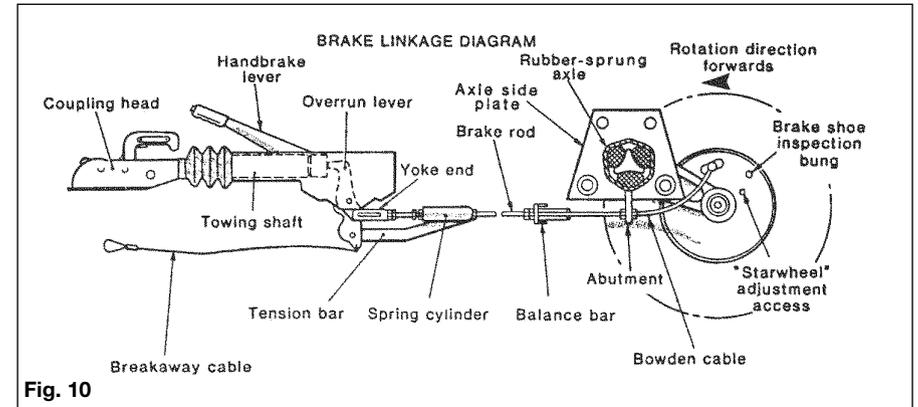
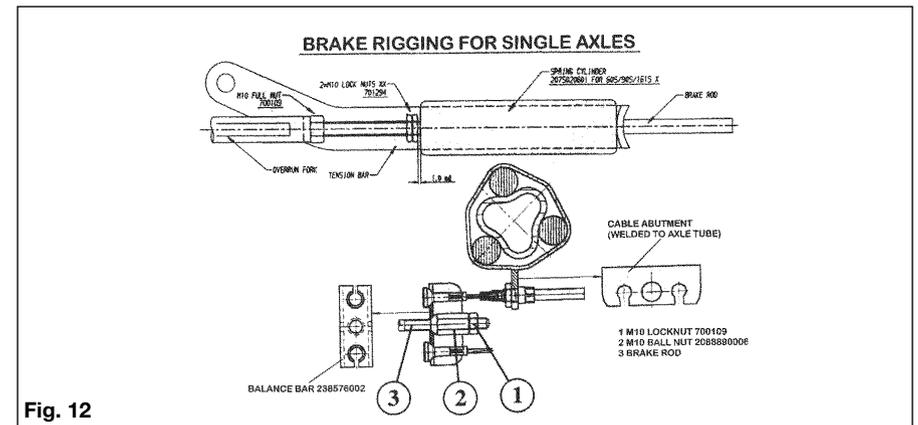

Fig. 10
Fig. 12
1. Ensure the towing shaft with coupling head is pulled FULLY FORWARD. (Fig. 10).
2. Release the handbrake to the FULLY OFF position. If the handbrake will not go down the whole way because of the fairing or any other obstruction; then the fairing must be cut away and/or the obstruction removed to achieve this desired position. It will not be possible to set up the braking system properly when the handbrake is not in the FULLY OFF position. (Fig. 10).
4. Remove the inner plastic bung from the backplate to expose the "starwheel" adjuster access. (Figs. 10 & 11).
When the inner cable is pulled out it should extend between 5 and 8 mm. (Fig.12). (On tandem axles a double abutment (bracket) is fitted to the front axle ONLY).
10. Ensure the balance bar (compensator) is being pulled evenly (Figs.10 & 12). Excessive movement to this bar (double on tandem axles) would indicate possible incorrect adjustment (if appropriate, repeat step No. 7 - Fig. 12).
12. Remove the slack in the brake rod by adjusting the long ball nut, rear of the balance bar, ensuring the overrun lever makes contact with the end of the towing shaft. Note! Over adjustment to the long ball nut (Fig. 12/Item 2) could induce movement of the inner brake cable, reducing the effective clearance of the brake shoes. If the overrun lever will not make contact, it is possible the two lock nuts, forward of the spring cylinder, are incorrectly adjusted. Loosen the nuts and adjust brake rod as above (Figs. 10 & 12).
13. Adjust the two locking nuts, forward of the spring cylinder (Fig. 10), (on some chassis a single Nyloc nut is used) to give 1 mm of clearance on the spring cylinder. This cylinder (the energy store for the handbrake operation) must be able to rotate ONLY, not slide on the brake rod. (Fig. 12). (If the overrun assembly is fitted with a gas strut handbrake then no spring cylinder is fitted - therefore ignore this paragraph).